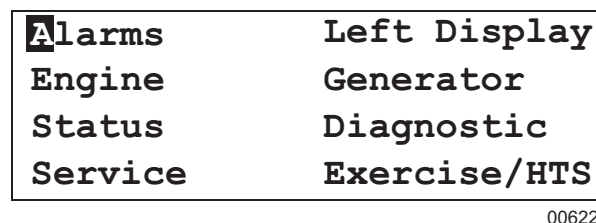

Figure 10 - Main Menu
1. Press MENU. The main menu displays (Figure 10).